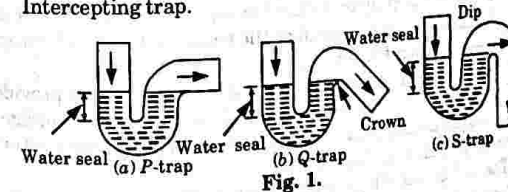

Fig. 1.
i. According to shape traps may be P-type, Q-type and S-type as shown in Fig. 1(a), (b) and (c).